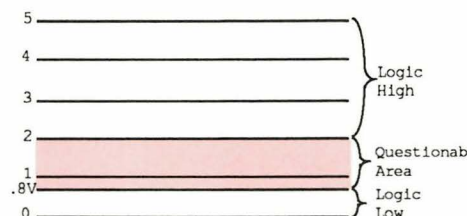

Fig. 2: A digital waveform using TTL logic levels should not fall within the questionable area.
Knowing the total peak-to-peak amplitude of digital signals is not enough. Figure 2 shows the requirements of a TTL waveform for correct
5. The logic low (step 3) should be less than 0.8 volts, and the logic high (step 4) should be greater than 2.0 volts. (see chart in figure 2)